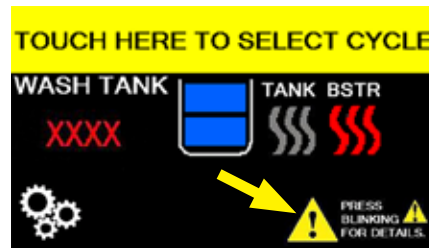

Fig.13c - Main screen with blinking fault icon.
3. The machine will resume operation. The main screen in this example, has a blinking  fault icon indicating the wash tank sensor is in a fault condition, and the tank heater is de-energized,  (Fig.13c).